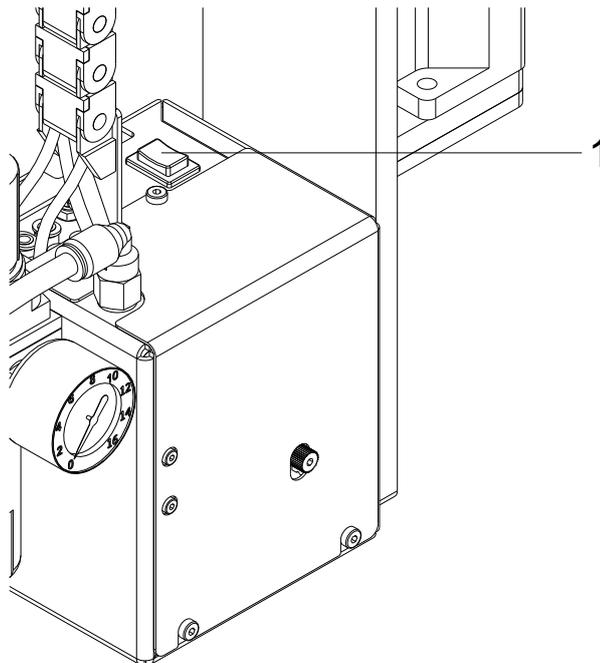

Figure 28
This method allows to check the labelling process with real print data using the pre-dispense key (1, Figure 28).
⇒ Press the pre-dispense key (1, Figure 28).
⇒ Press the pre-dispense key (1, Figure 28) again.